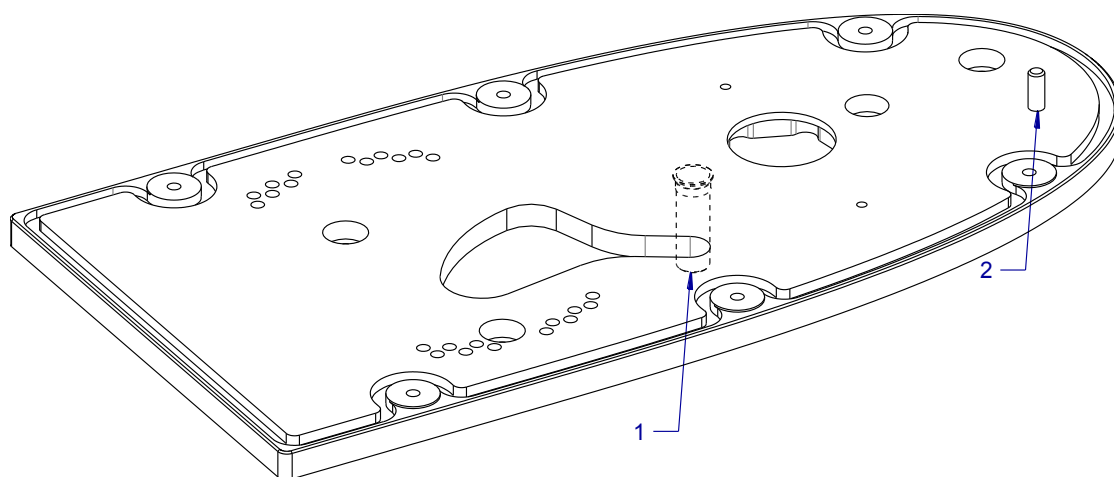

Fig. 10 – Grounding terminals position
*Note* Two terminals are available for grounding the camera cover M4×10 and M8×17, see Fig. 10.